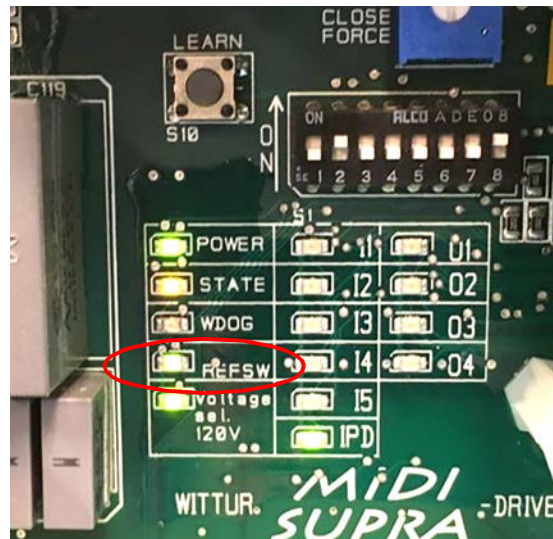

Figure 62 - Activated REFRSW (reference switch) LED
6. Verify that the REFRSW (reference switch) LED activates approximately $\frac{1}{2}$ " before the door is closed. See Figure 62.